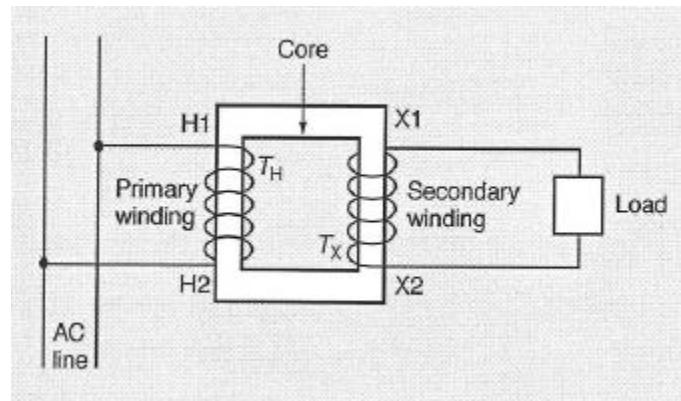

Figure 8.5: Simple Transformer
- 8-8 A simple transformer consists of two coils wound on a closed iron core as seen in Figure 8.5. The winding connected to the supply is called the *primary winding*. The winding connected to the load is called the *secondary winding*.
- 8-10 Standard markings are used for transformer terminals. The terminals of the high-voltage winding are marked H1, H2 and so on. The low-voltage terminals are marked X1, X2 and so on. The number of turns in each winding is abbreviated  $T_H$  or  $T_X$ . All these markings are shown in Figure 8.5.
- 8-11 Suppose an alternating current is supplied in the high-voltage (H) winding if the step-down transformer shown in Figure 8.5. No load is connected to the secondary winding. The RMS current in the primary winding is very small, because the winding is an almost pure inductive load. The more turns of wire included in the primary winding, the closer the winding is to a purely inductive load and the lower its RMS current.
8-24 The windings of commercial transformers are not placed on separate "legs" of the core, as shown by the simplified diagram in Figure 8.5. The transformer can be made more efficient by placing both windings on the same leg, or by placing both windings on both legs. Placing the two windings together enables more of the magnetic field of the primary to induce current in the secondary.